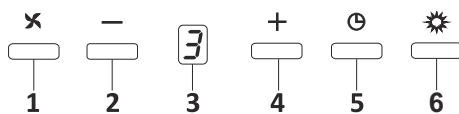

Fig. 14: 3 Spd Dig Button
1. ➤ Press this button to turn on the product.Fig. 14
2. ➤ Press this button to decrease the motor speed.Fig. 14
3. ➤ Dig display You can follow which speed the product is currently working on this display.Fig. 14
4. ➤ Press this button to increase the motor speed.Fig. 14
5. ➤ When timer button is pressed, a 15-minute timer function will be activated; display will give a signal once the timer starts and the motor will stop automatically after 15 minutes.Fig. 14
6. ➤ Press this button to turn on and off the lamp.Fig. 14